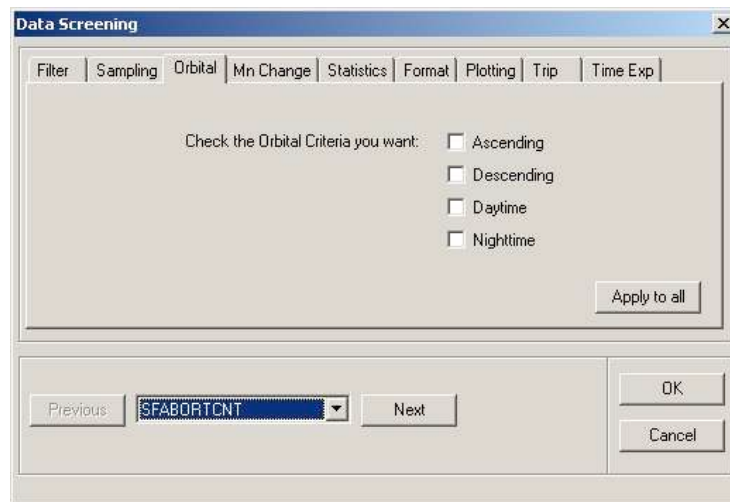

Figure 72: Data Screening Orbital Criteria
- Select the “Orbital” tab from the Data Screening window (see *Figure 72*).